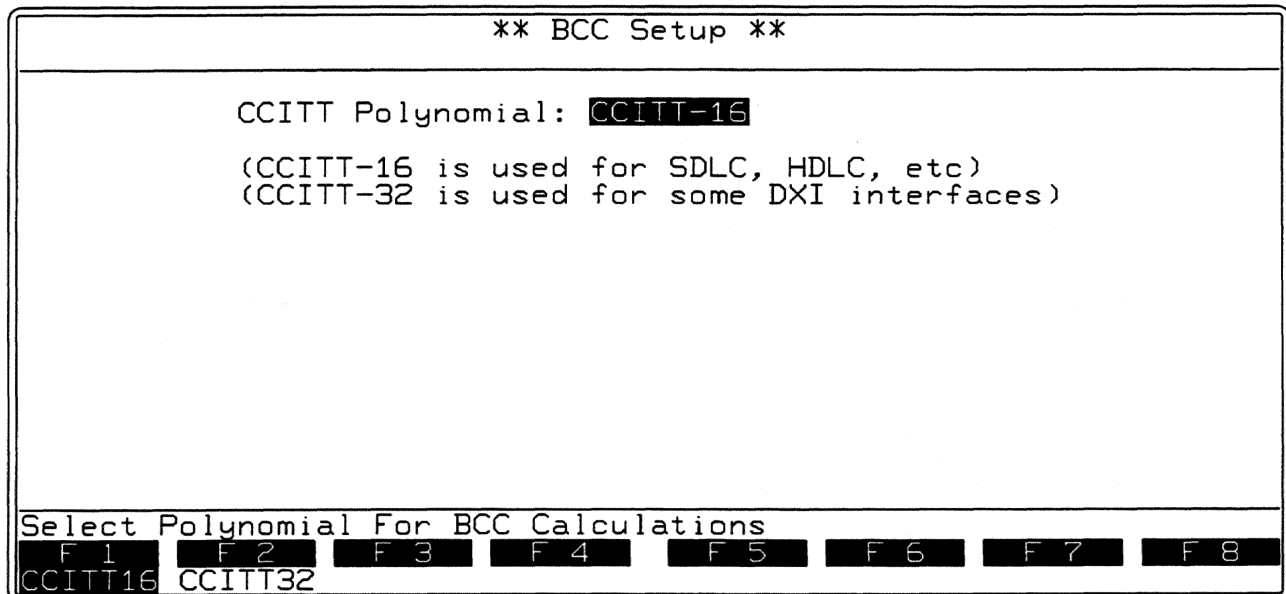

Figure 10-10 The only BCC parameter selection for BOP in High Speed Frame Mode is the CCITT polynomial.
2. *In High Speed Frame Mode.* When **High Speed Frame Mode:** YES is selected on the Line Setup screen, the unit uses standard parameters for BCC calculations with one user-selectable field: the user may select the **CCITT Polynomial:** CCITT-16 or CCITT-32 on the BCC Setup screen as shown in Figure 10-10.
In this mode an INTERVIEW 8800 *TURBO* supports applications for monitoring and emulation of the SMDS DXI (Data Exchange Interface) at T1 and E1 data rates with no additional hardware requirement. The DXI protocol is used between routers and SMDS DSUs in BOP format with an optional 32-bit CRC; select **CCITT Polynomial:** `CCITT-32` on the BCC Setup screen as shown in Figure 10-10.